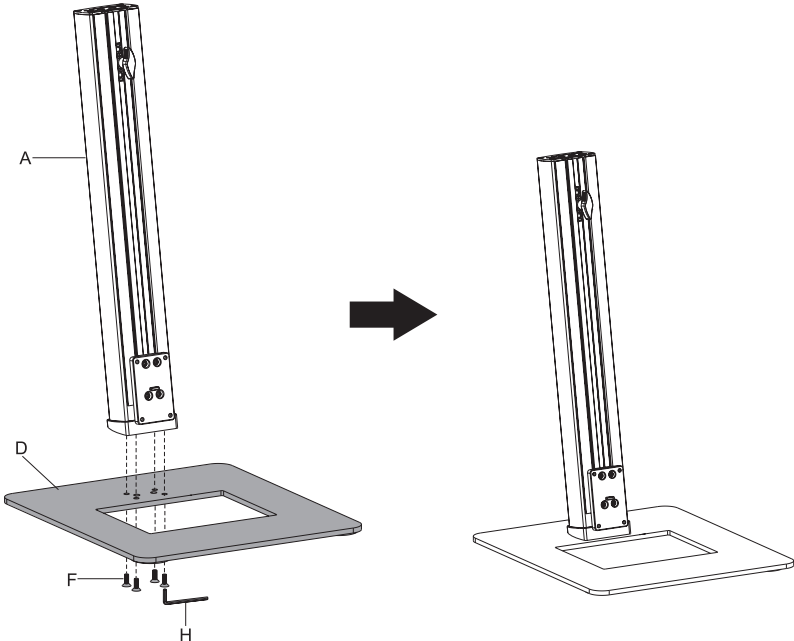

Figure 1
Align the Support Pole (A) to the Weighted Base (D), insert Bolt (F) and tighten them using Allen Key (H), see Figure 1.